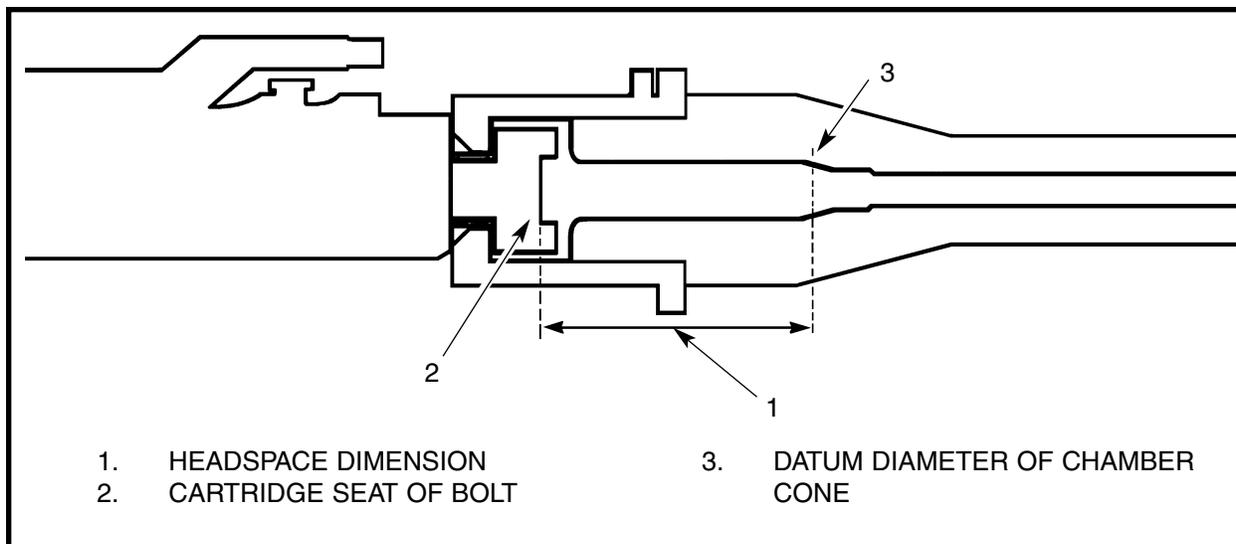

Figure 4-4 Headspace Dimension Detail
7. See Figure 4-4. The headspace dimension (1) is the distance between the face of the cartridge seat of the bolt (2) and the datum diameter (3) of the cone at the front of the chamber. Headspace for the C7 and C8 weapons shall be between 37.10 and 37.42 mm. Check headspace with the "GO" and "NOT GO" headspace gauges by the following procedure: